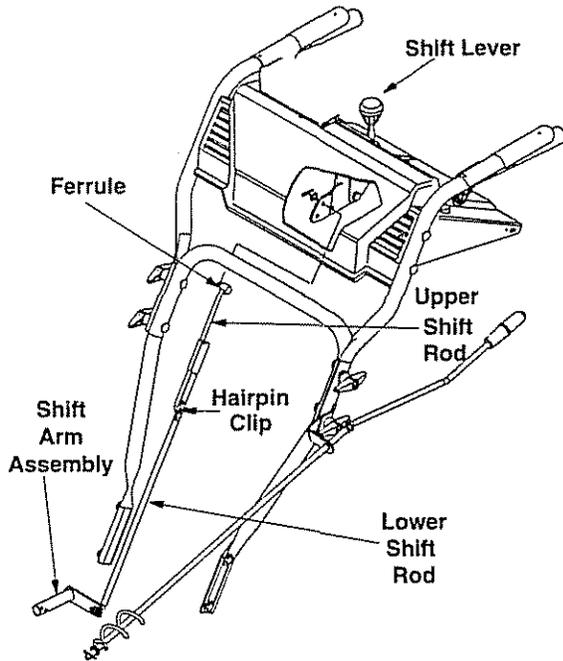

Figure 11
1. Remove hairpin clip and slide clutch rod connector up to separate upper and lower shift rod. See Figure 11.
2. Place shift lever in sixth (6) position or fastest forward speed.